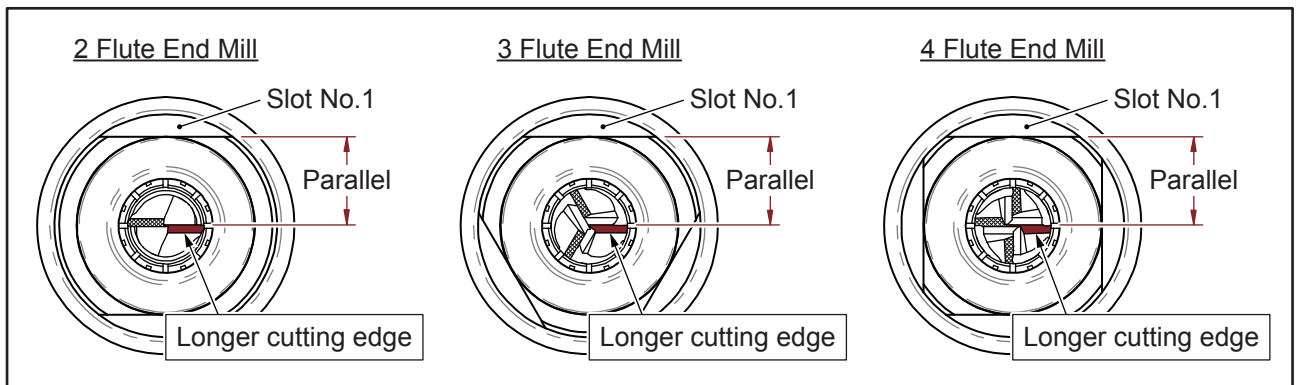
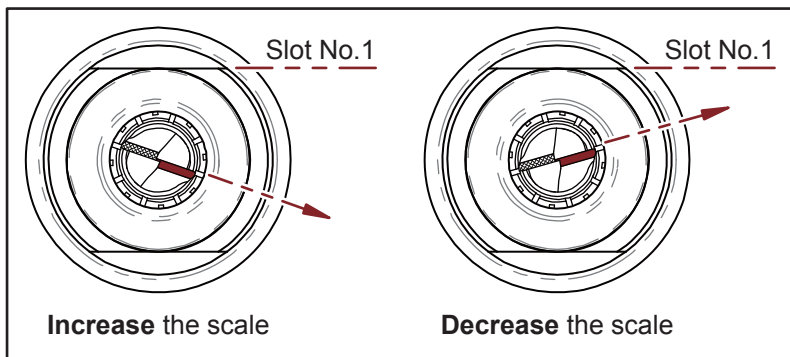

Fig. 5-6
Fig. 5-7
- 4) Turn the longer cutting edge of end mill to be parallel with the Slot No.1 of the clamping nut. (See page 17, Fig. 5-6)
7) After taking out the chuck set, make sure end mill's longer cutting edge is parallel to the Slot No.1 of clamping nut (Fig. 5-6), if it is not parallel, adjust the scale and reposition end mill (Fig. 5-7).